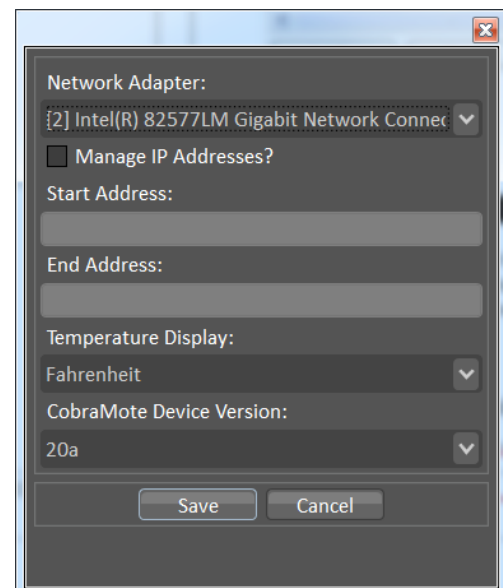

Figure 6: CobraMote Settings
4. Once in CobraMote, go to **Settings > General** (**Figure 6**).